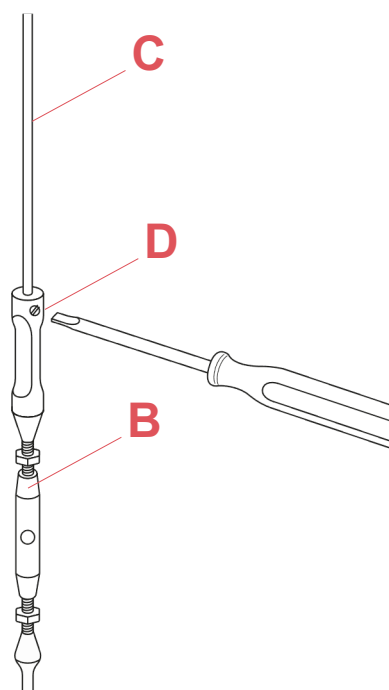

Fig.2
Insert the end point of the steel suspension cable (C) into the upper hole of the turnbuckle (B) and then fasten the locking screw (D). (Fig.2 page 2)